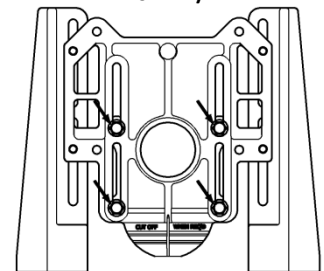

Figure 3b
- For ZN1201 and Z1201-XH/XB, see **Figure 3b**.